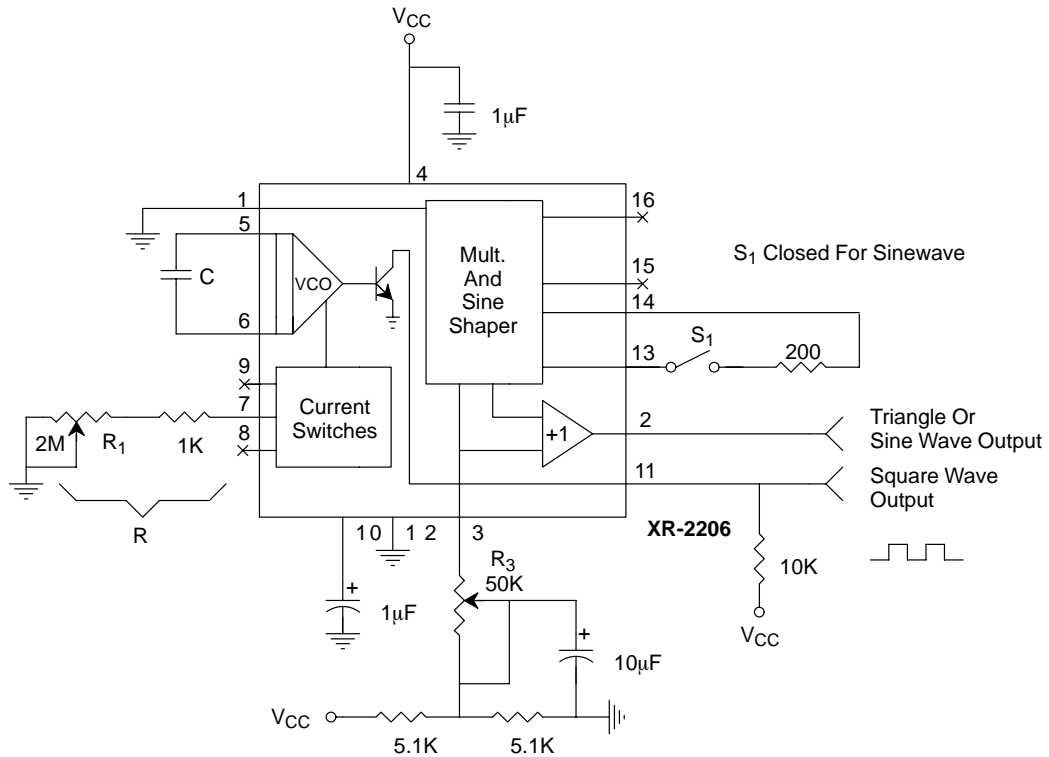
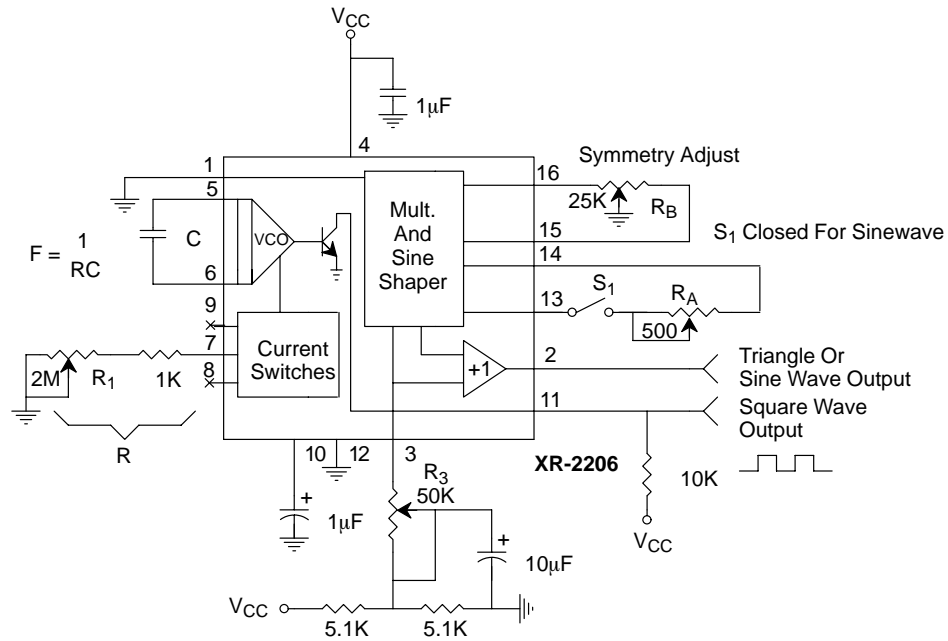
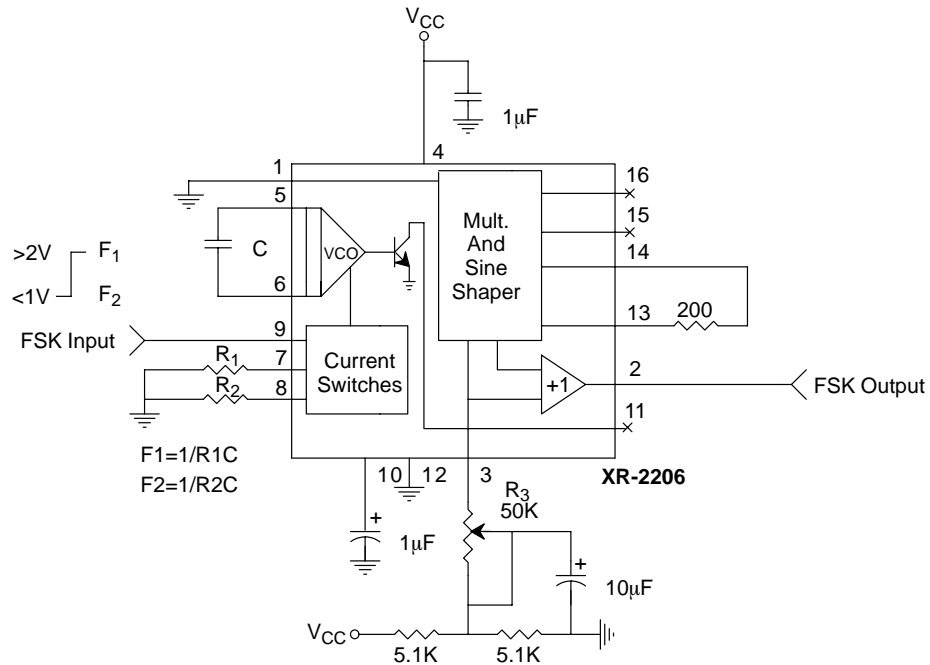

Figure 11. Circuit for Sine Wave Generation without External Adjustment.
Figure 12. Circuit for Sine Wave Generation with Minimum Harmonic Distortion.
Figure 13. Sinusoidal FSK Generator
The XR-2206 can be operated with two separate timing resistors,  $R_1$  and  $R_2$ , connected to the timing Pin 7 and 8, respectively, as shown in *Figure 13*. Depending on the polarity of the logic signal at Pin 9, either one or the other of these timing resistors is activated. If Pin 9 is open-circuited or connected to a bias voltage  $\geq 2V$ , only  $R_1$  is activated. Similarly, if the voltage level at Pin 9 is  $\leq 1V$ , only  $R_2$  is activated. Thus, the output frequency can be keyed between two levels.  $f_1$  and  $f_2$ , as:
The dc level at the output (Pin 2) is approximately the same as the dc bias at Pin 3. In *Figure 11*, *Figure 12* and *Figure 13*, Pin 3 is biased midway between  $V^+$  and ground, to give an output dc level of  $\approx V^+/2$ .
*Figure 11* shows the circuit connection for generating a sinusoidal output from the XR-2206. The potentiometer,  $R_1$  at Pin 7, provides the desired frequency tuning. The maximum output swing is greater than  $V^+/2$ , and the typical distortion (THD) is  $< 2.5\%$ . If lower sine wave distortion is desired, additional adjustments can be provided as described in the following section.
The circuit of *Figure 11* can be converted to split-supply operation, simply by replacing all ground connections with  $V^-$ . For split-supply operation,  $R_3$  can be directly connected to ground.
The harmonic content of sinusoidal output can be reduced to -0.5% by additional adjustments as shown in *Figure 12*. The potentiometer,  $R_A$ , adjusts the sine-shaping resistor, and  $R_B$  provides the fine adjustment for the waveform symmetry. The adjustment procedure is as follows:
The circuits of *Figure 11* and *Figure 12* can be converted to triangle wave generation, by simply open-circuiting Pin 13 and 14 (i.e.,  $S_1$  open). Amplitude of the triangle is approximately twice the sine wave output.
*Figure 13* shows the circuit connection for sinusoidal FSK signal operation. Mark and space frequencies can be independently adjusted by the choice of timing resistors,  $R_1$  and  $R_2$ ; the output is phase-continuous during transitions. The keying signal is applied to Pin 9. The circuit can be converted to split-supply operation by simply replacing ground with  $V^-$ .